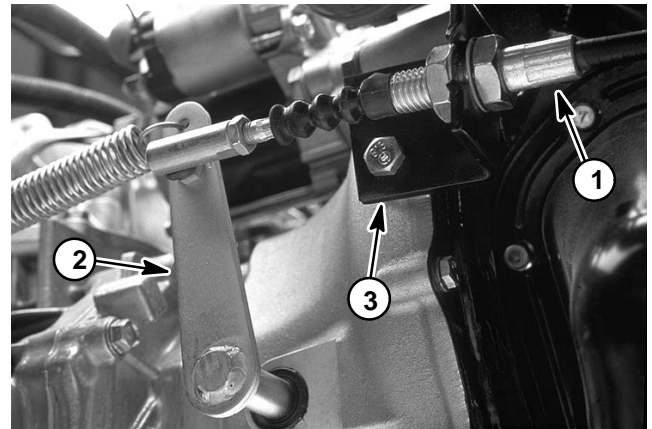

Figure 13
8. Disconnect clutch cable from clutch release lever, then loosen jam nut to remove clutch cable from support bracket (Fig. 13).